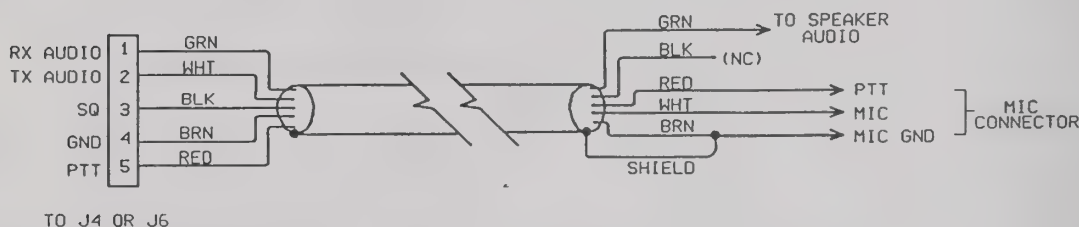

Figure 3-6 Radio-to-PK-232 Connections
3. Verify that your PK-232 and FM radio are connected as shown in Figure 3-6 below.
- 1. Connect your PK-232 and SSB radio as shown in Figure 3-6.